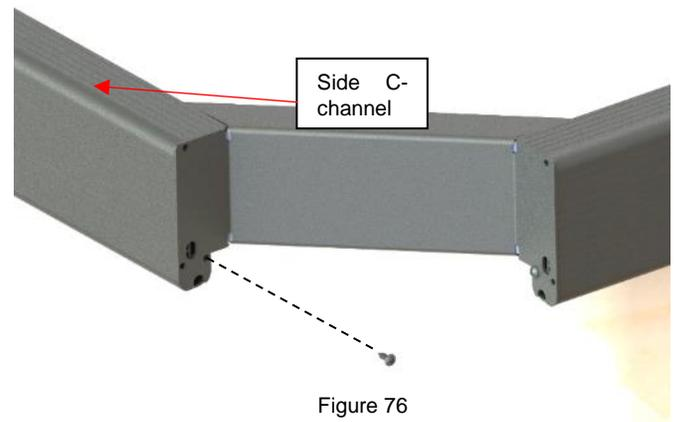

Figure 76
34) Snap on the remaining side C-channels, 83" (210 cm) at one end of the cover. It is recommended to slightly engage the top flange before the bottom when sliding the C-channel onto the foam panel (Figure 76).
35) Screw in the Robertson sheet metal #8 x 3/4" screw in the inner hole of the corner bracket reinstall the (Figure 76).